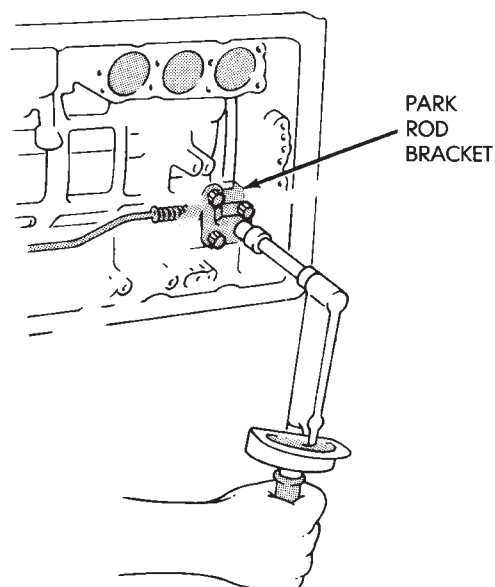

Fig. 33 Removing/Installing Park Rod Bracket
- (1) Remove valve body as outlined in this section.
- (2) Remove bolts attaching park rod bracket to case (Fig. 33).
- (8) Install park rod and bracket (Fig. 33). Tighten bracket bolts to 10 N•m (7 ft. lbs.) torque.
- (9) Install valve body, oil screen and oil pan as outlined in this section.